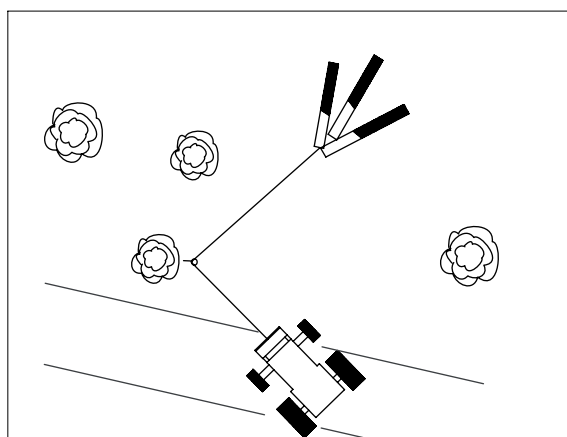

Fig. 7. Use a diverting pulley to avoid winching sideways.
1. Choose a horizontal, hard based skidding route for the tractor. Avoid steep slopes, especially when winching from the side. Check that the winching trail is clear and that the tractor's parking brake is on. Do not run the tractor at a high idle when winching. Maximum P.T.O speed is 540 rpm. Ensure that the logs can be drawn freely. Be especially careful when working on slopes. Avoid winching sideways at angles exceeding 30 degrees. Use snatchblock which is fastened to the tree if needed. (See fig. 7.)